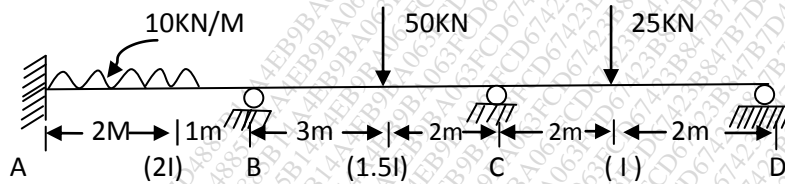

Fig. 6
Q.8 Analyze the continuous beam shown in fig.6 by Kani's method and draw BMD.